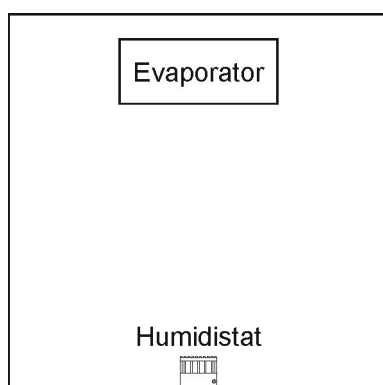
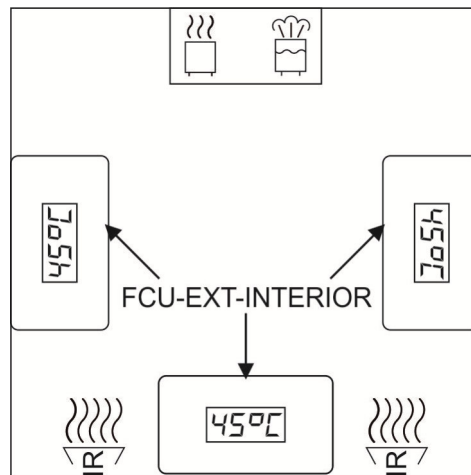

Figure 7: Installation location for humidity sensor/combined bench sensor
Fig. 8: Location cabin interior display
4. Depending on the sensor used, connect the signal cable to the board as per the circuit diagram as given in figure 7 or figure 8.